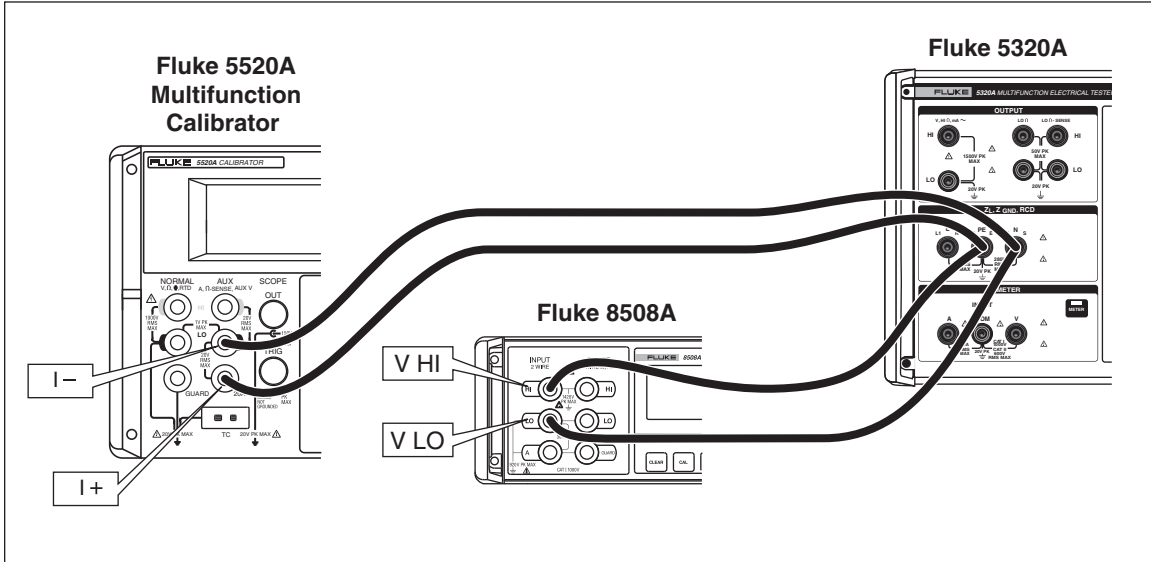

Figure 6-5. High Current Bond Resistance Connections
1. Connect the Calibrator to the multimeter and multifunction calibrator as shown in Figure 6-5.